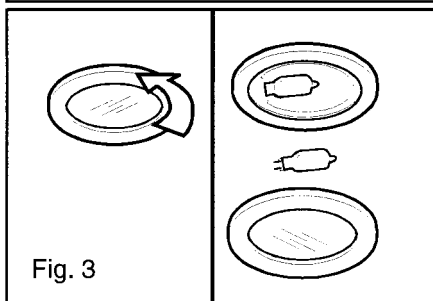

Fig. 3
Replace Lights For Models HDW, HGSW, HCSW30/36/42 (Fig. 3)
- Using a flat edge from a screwdriver or equivalent tool pry loose the lens cover as shown in Figure 3.